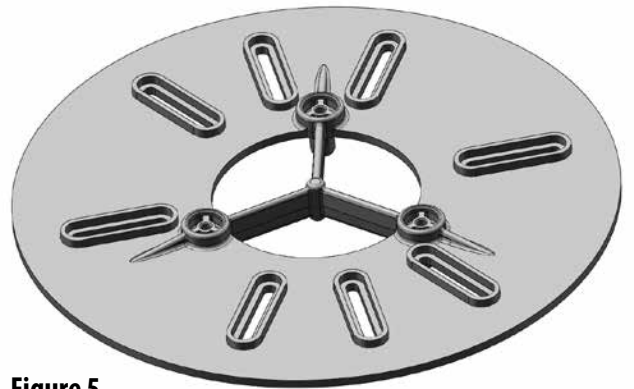
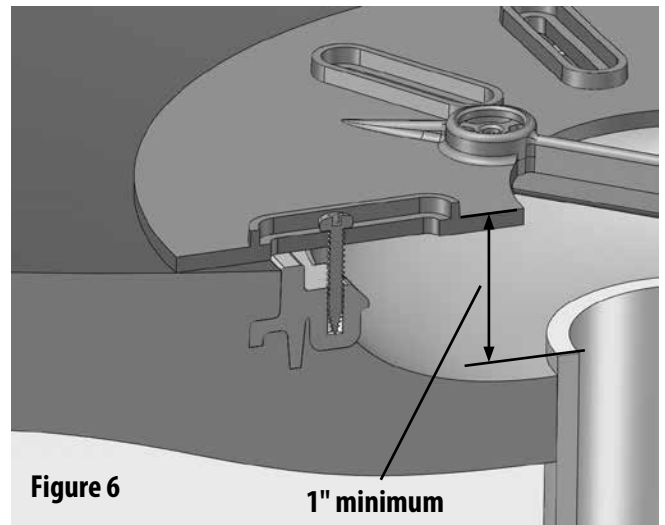

Figure 5
Figure 6
4. Align the drain cover support plate (#8) over the ring or sump (Figure 5). The top of the outlet pipe should be recessed a minimum of 1 inch from the back of the plate (Figure 6).
5. Attach the drain cover support plate to the pool or spa surface with the appropriate screws, fasteners, and spacers as described in 3 above (Figures 6 or 7). Once installed, be sure that the drain cover support plate is firmly in place and cannot be pulled out of the pool or spa surface. If the drain cover support plate is not firmly in place, re-read these instructions and try another installation method (perhaps 3c above).